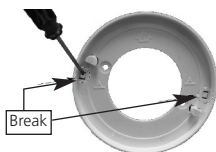
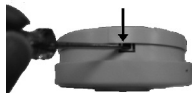

FIGURE 7
FIGURE 8
- 6). Tamper Resist Feature: To make your smoke alarm tamper resistant, a tamper resist feature has been provided. Activate the tamper resist feature by breaking out the block in the trim ring (see Figure 7). When the blocks are broken out, the tamper resist tab is allowed to engage the mounting bracket. Rotate the alarm onto the mounting bracket until you hear the tamper resist tab snap into place, locking the alarm on the mounting bracket. Using the tamper resist feature will help to deter children and others from removing the alarm from bracket. NOTE: To remove the alarm when the tamper resist tab is engaged, press down on the tamper resist tab with a screwdriver, and rotate the alarm off of the bracket (see Figure 8).
If tamper resist has been used, refer to Figure 8 in Section 3 for alarm removal instructions.